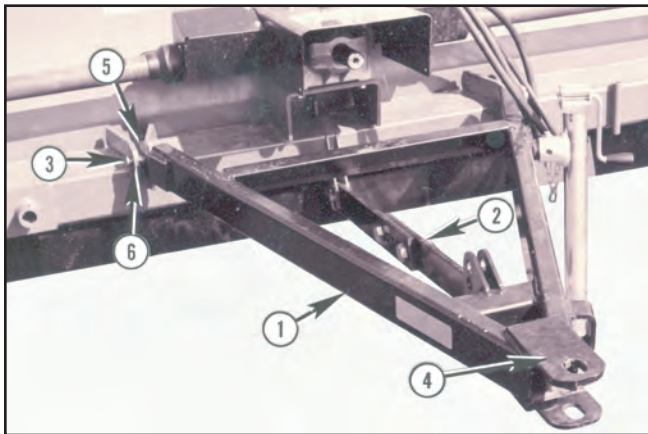

FIGURE 108
Remove both base unit draft pins (3) and position hitch (1) with thicker hitch clip on top (4). Insert hitch's rear brackets (5) between both sets of base unit ears (6) and reinstall pins (3). Insure cotters on each end of both pins are spread. See Figure 108 below.